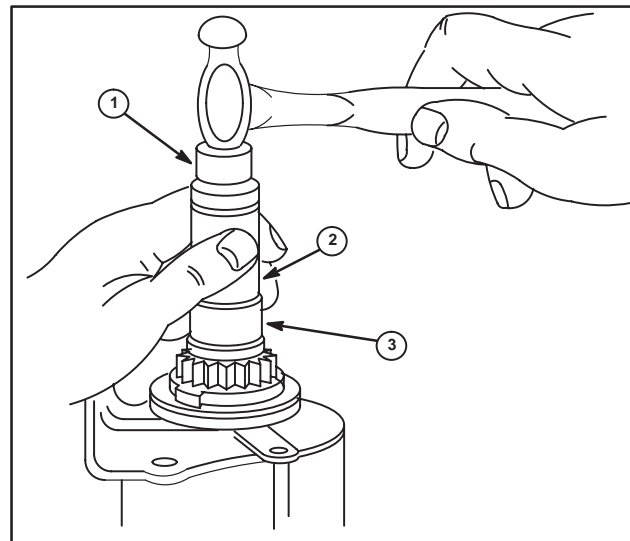

Fig. 67
5. To install plastic cap, fit a socket (2) over the plastic cap (3) and tap gently (1) as shown in Fig. 67.